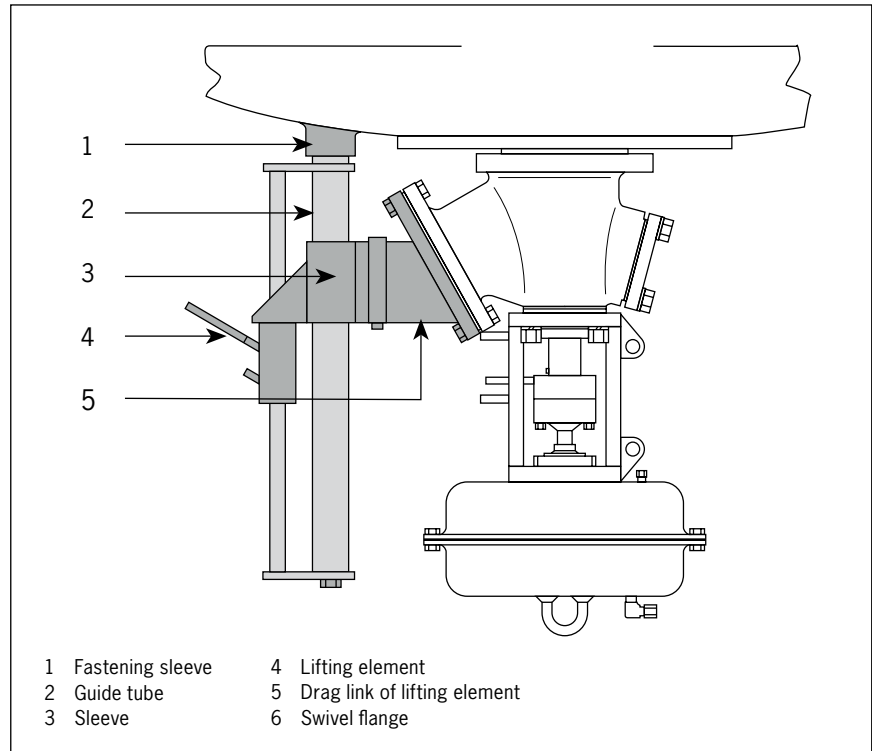

Figure 6 Valve installation device
The valve installation device is suitable for installing and removing valve types AMA/APA 100/80 and 150/100. However, the valve installation device can only be used if a **fastening sleeve** is available on the reactor (cf. Fig. 6, item 1).